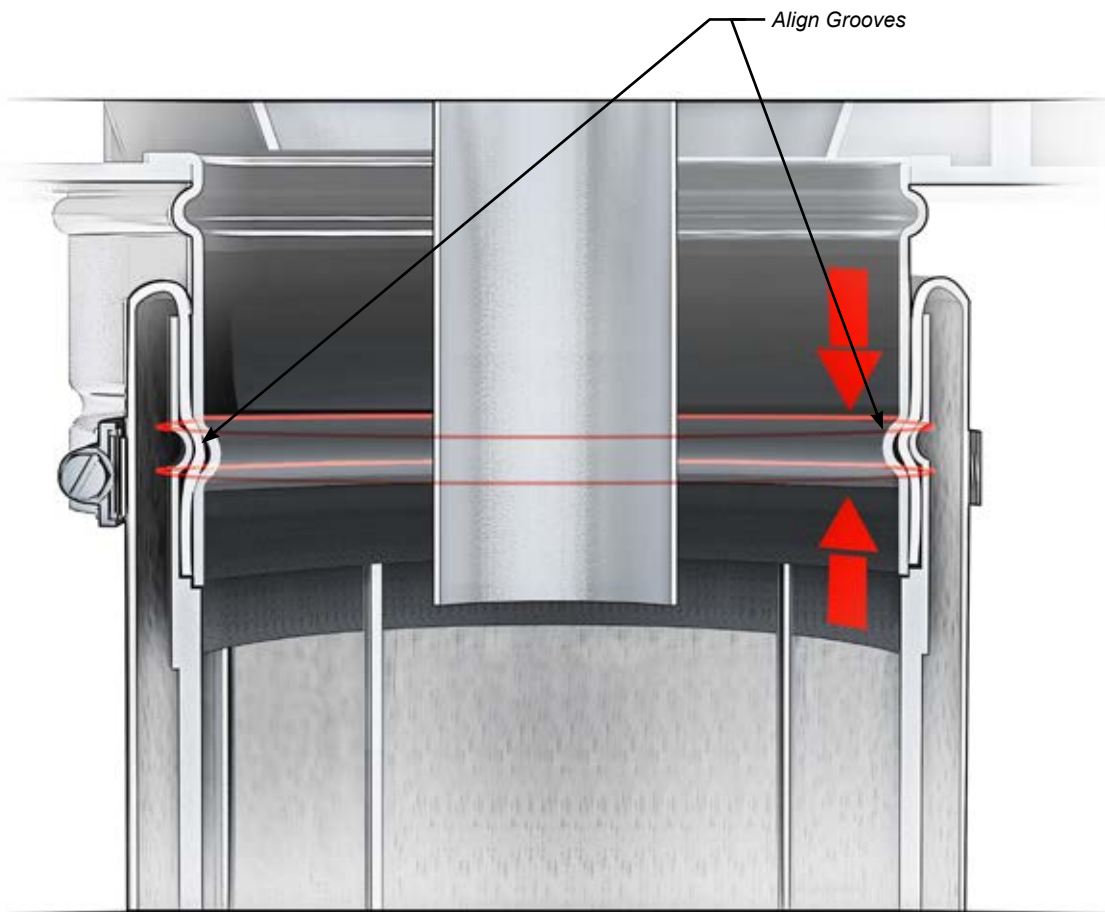

FIGURE 11
6. Match the groove in the retainer sleeve with the groove in the tube sheet collar to prevent the assembly from slipping off (see Figure 11).